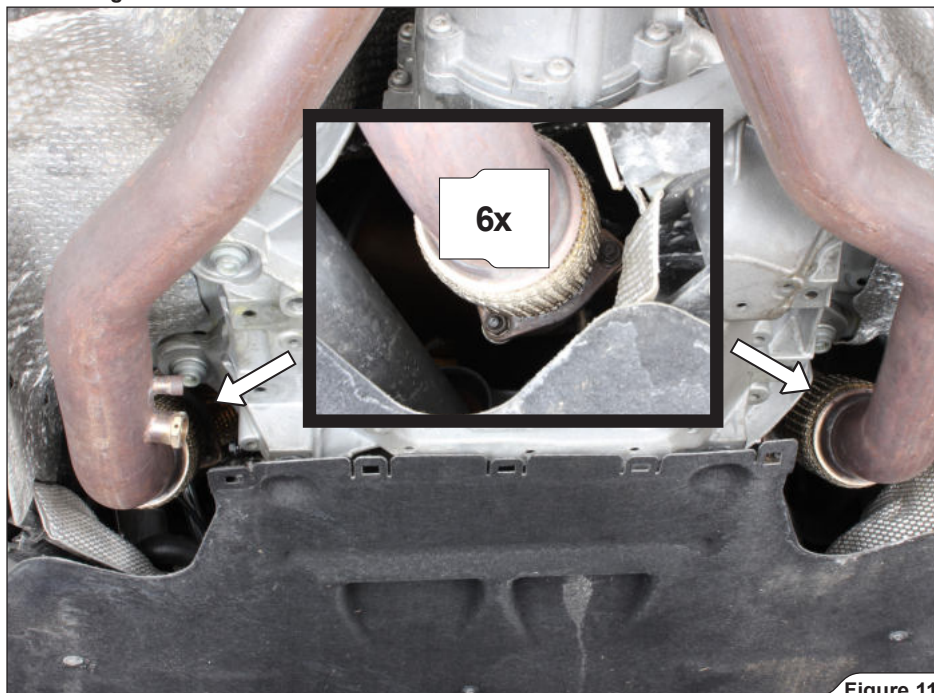

Figure 11
- Support the link pipes, unscrew the marked flanges' nuts and carefully remove the link pipes off the vehicle (**Figure 11**).